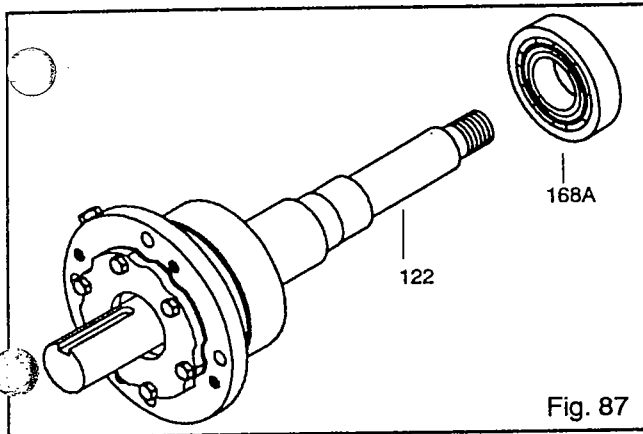

Fig. 87
8. Install inboard bearing (168A) on shaft (122) (Fig. 87).